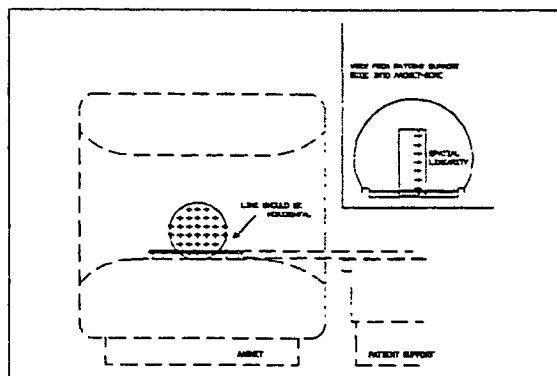

Figure 2 Sagittal position of phantom
- For correct position see Figure 2